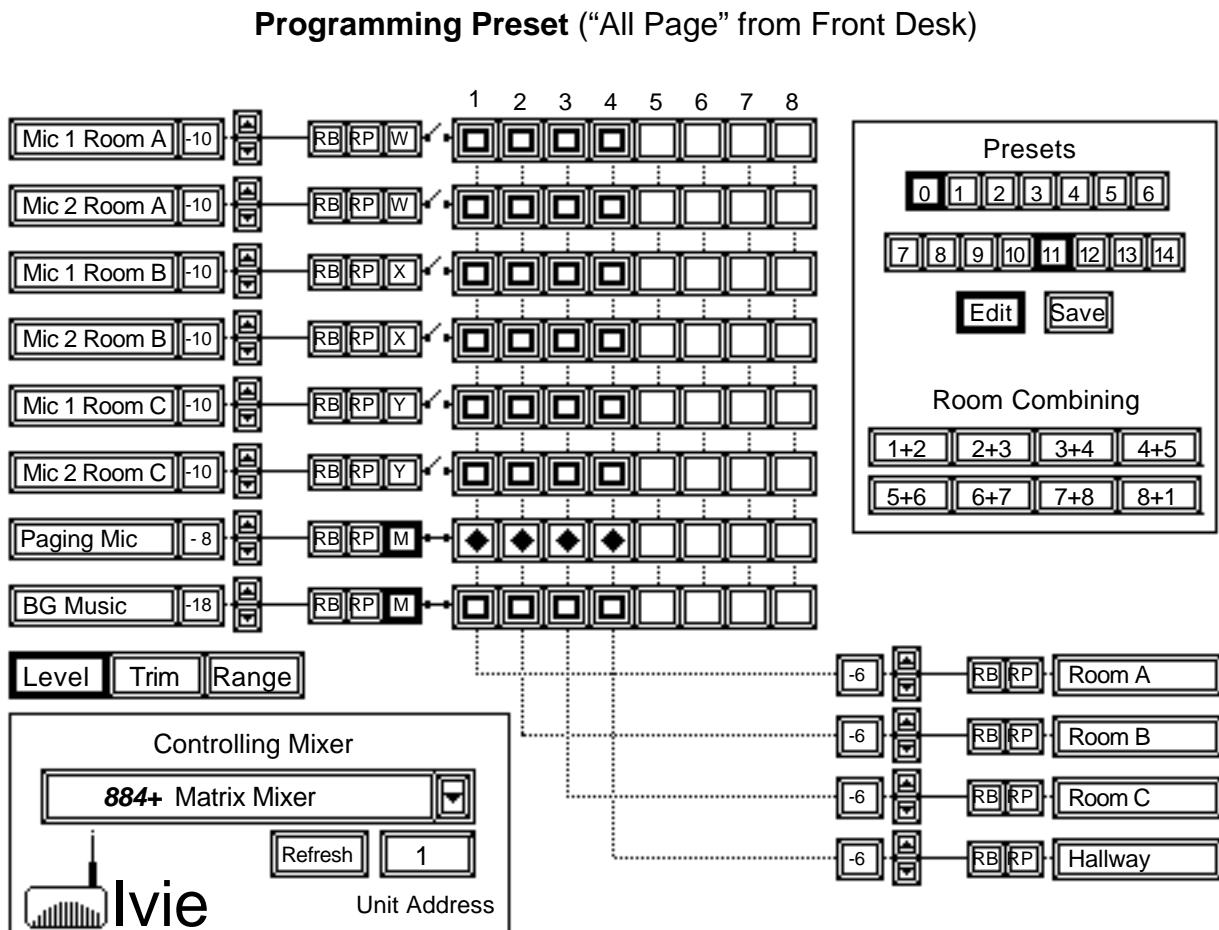

Figure 43
The final preset that would need to be programmed for the three meeting room application is the All Page (Preset 11). The highest numbered preset used in this application is Preset 11 because the All Page has the highest priority of any condition of the sound reinforcement system. The programming of Preset 11 is demonstrated in Figure 43 below:
3. Assign (Definitely On) the front desk Paging Microphone to all zones using the appropriate Mix Bus Assign Buttons (the red diamonds on the Mix Bus Assign Buttons shown in Figure 43 on the preceding page demonstrate that this has been done).
4. Turn off every other input that could possible feed any zone (the red rectangles on Mix Bus Assign Buttons shown in Figure 43 demonstrate that this has been done).
5. Turn off (disable) the remote controls for all zones (notice the RB buttons for all zone outputs are not longer depressed. Clicking on an RB Button releases it. While the graphic in Figure 43 shows the buttons released, it cannot show that they would be red in color. On the ANSW+ software screen, they *would* be red to indicate they had been changed as part of the preset).
6. Using the up/down level buttons, adjust the page level coming into each zone. (Notice that each zone's output level has been turned up from -10dB to -6dB as Figure 43 on the preceding page shows.) (Again, the changed level would be red in color.)